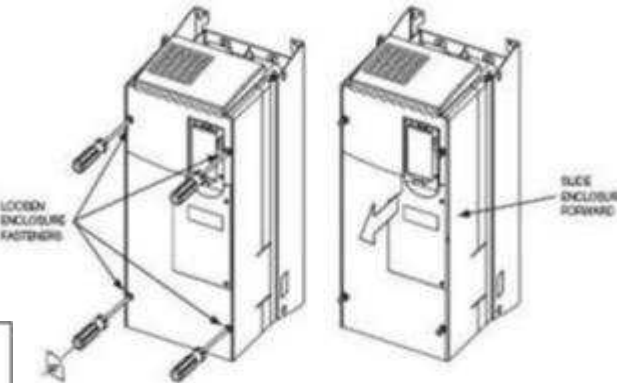

Fig. 18 — Removing Enclosure
3. Remove the enclosure. See Fig. 18.